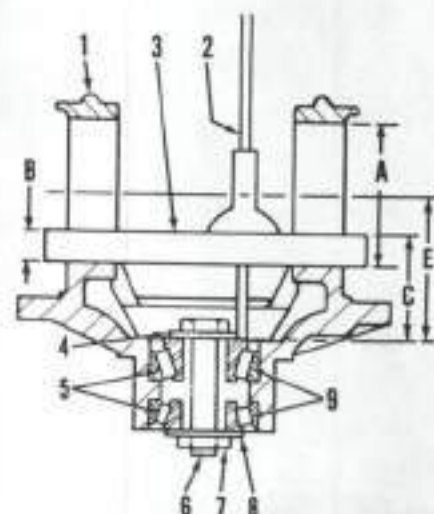

Fig. 27—Diagram showing method of securing pinion bearings in support housing to allow depth gage measurement to be taken.
To set pinion shaft protrusion, install bearing cups and cones in carrier housing. Use a bolt, washers and nut as shown in Fig. 27 to hold bearing cones in place. Tighten bolt and nut until bearing cones are difficult to turn.
Install carrier bearing caps (1—Fig. 27) on carrier housing and tighten nuts to 205 N·m (150 ft.-lbs.) torque. Measure and record diameter of bearing bore (A). Place a shaft (3), having a diameter of at least 25 mm (1 inch) and having a cross hole drilled through it, across bearing bores as shown in Fig. 27. Measure and record diameter (B) of shaft. Using a depth gage measure from top of shaft to face of inner bearing cone (Fig. 28) and record measurement (C—Fig. 27).
To determine correct thickness of shims (11—Fig. 25) required to obtain desired shaft protrusion, use the following calculations: Subtract diameter of shaft (B—Fig. 27) from depth gage measurement (C). Add this figure to one-half the diameter of carrier bearing bore (A). The result is dimension (E). Then subtract dimension etched on pinion shaft gear face (dimension is in millimeters) from dimension (E). The resulting dimension will be correct shim (11—Fig. 25) thickness to install to properly set pinion shaft protrusion.